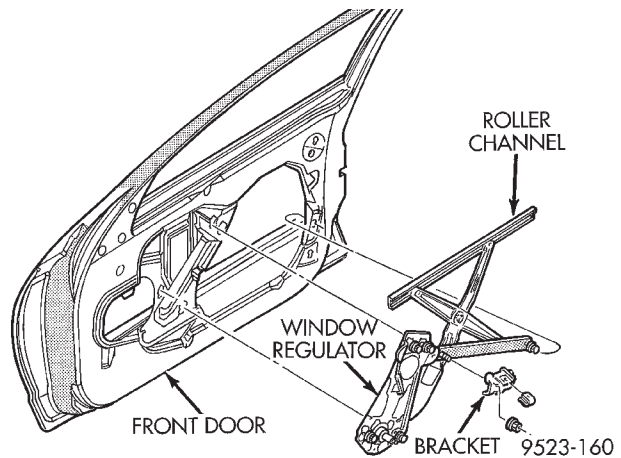

Fig. 40 Front Door Glass Regulator
- (5) Separate screw and bolt heads from keyhole slots in door panel.
- (6) Loosen bolts holding regulator to door panel.
- (7) Separate regulator from door panel (Fig. 40).
- (8) Slide regulator rearward and rotate forward end of roller channel through access hole in door panel.